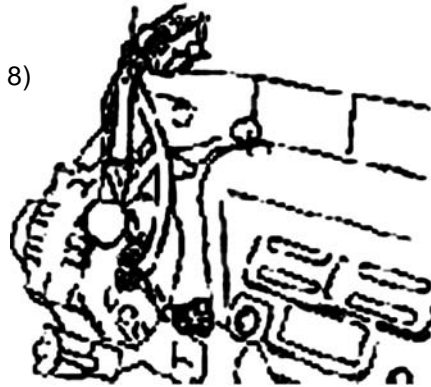

Figure 8
3. Remove cylinder head cover sub-assembly See (Figure 8)